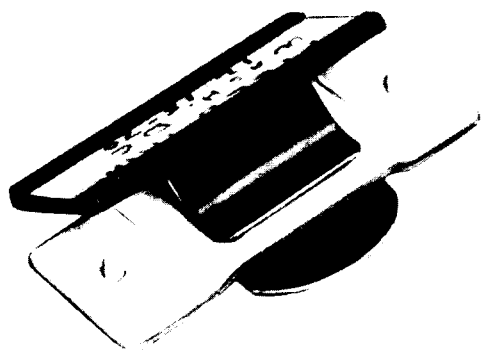

Fig. 3—Designation Strip Mounted in Holder
3.02 Prepare a designation strip 7/8 inch by 2 inches and print the pertinent information with india or printers ink. The characters should be at least 3/16-inch high. Slip the designation strip in the holder at the inside bottom end of the hood with the lettering facing the camera lens and right side up (Fig. 3).